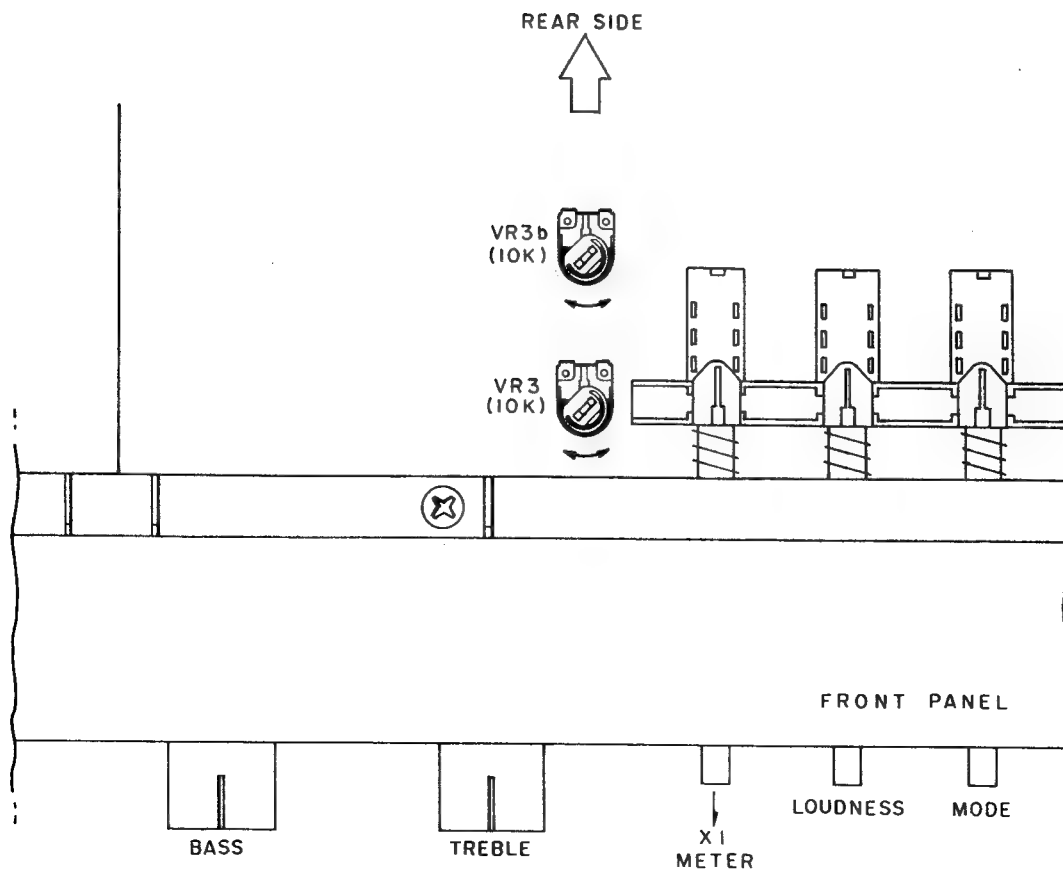

Fig. 10 Main Amp P.C Board AMUZ-16A (AM-U22)
2) Model AM-U22 (Refer to Figs. 10, 11)